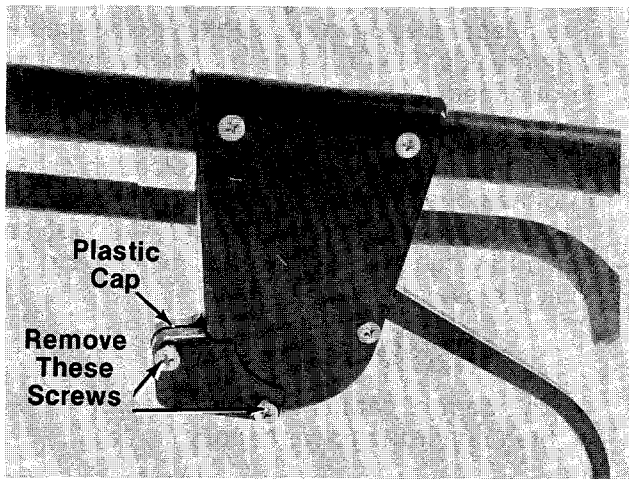

FIGURE 7.
12. Remove the two screws located beneath the clutch control housing on the upper handle as shown in figure 7. A Phillips screwdriver is required. Remove the plastic cap.